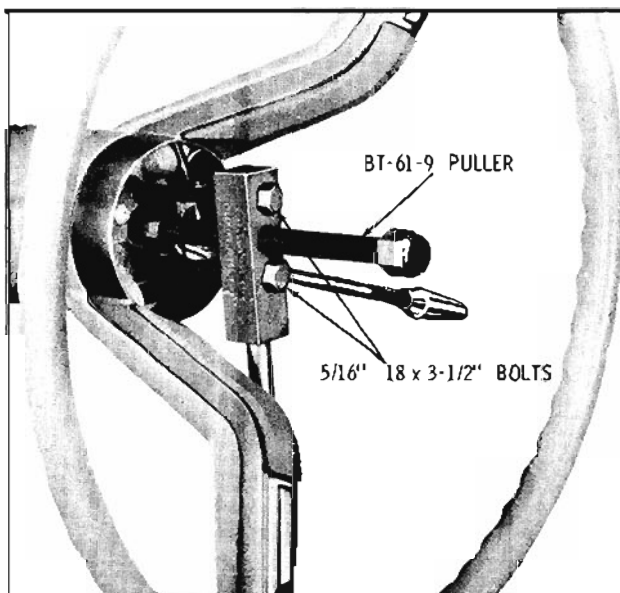

Fig. 8-76 Removing Steering Wheel
- Remove the steering wheel attaching nut and washer, then using a puller such as BT-61-9, remove the steering wheel from the steering shaft. (Fig. 8-76) Remove puller from steering wheel.